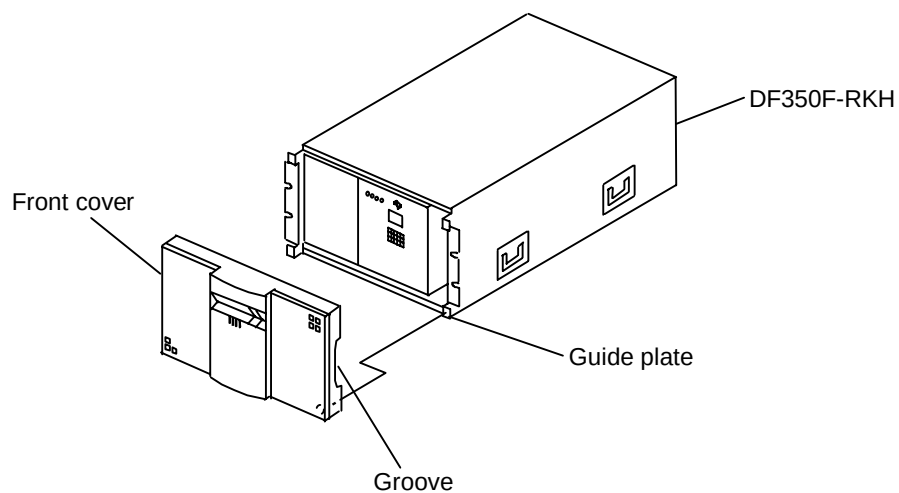

Figure 1.4.1 Removing and Installing the Front Cover
- (1) Secure the subsystem at four places using the ⑪ Binding screws (M5 × 32).
- (2) Reinstall the front cover by pressing it against the subsystem. (See Figure 1.4.1.)